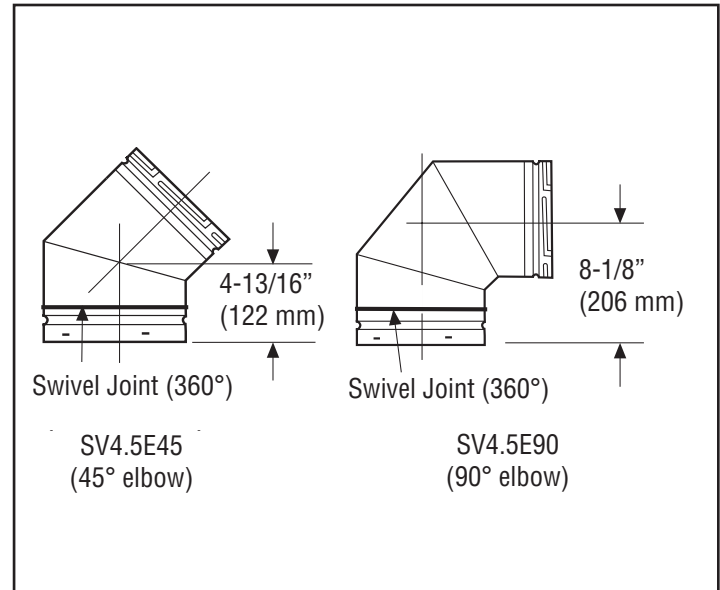

Figure 13 - Elbow Dimensions
- 8. Change vent direction**—At transition from or to a horizontal/inclined run, install SV4.5E45 or SV4.5E90 elbows in the same manner as the straight vent sections. The elbows feature a twist section to allow them to be routed about the center axis of their initial collar section to align with the required direction of the next vent run element. Twist elbow sections in a clockwise direction only so as to avoid the possibility of unlocking any of the previously connected vent sections (Figure 13, page 17).
Vent elbows are available in 90° and 45° configurations. Refer to Figure 13 for the SV4.5E45 and SV4.5E90 elbow dimensions. The elbows feature a twist section to allow them to be routed about the center axis of their initial collar section to align with the required direction of the next vent run element.
1. Rotate the elbow in a clockwise direction (to avoid the possibility of unlocking any of the previously connected vent sections) for proper alignment (Figure 13). See Connecting the vent pipe for more information.
1. **Analyze the vent route and determine the number of vent sections and elbows required**—See Effective Vent Length on table 2, Page 14 for more information. Plan the venting so that a joint does not occur in the ceiling or roof joists. Allow for elbows (Figure 13, page 17). Maintain the minimum clearances for combustibles (Page 9).